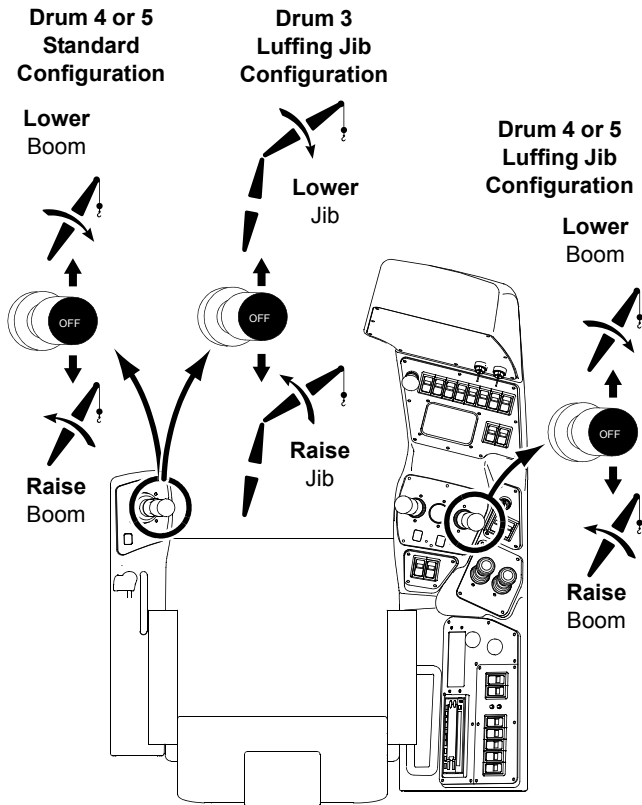

FIGURE 3-18
See Figure 3-18 for boom/mast hoist operation.
4. See Figure 3-18. Push boom/mast hoist handle FORWARD from off to LOWER boom or pull handle BACK from off to RAISE boom.
See Figure 3-18 for Luffing hoist operation.
When the crane is configured with a luffing jib (Drum 3), the multi-function handle on left console controls the luffing jib drum (See Figure 3-18).
4. See Figure 3-18. Push luffing hoist handle (Drum 3) on right console FORWARD from off to LOWER luffing jib or pull handle BACK from off to RAISE luffing jib.